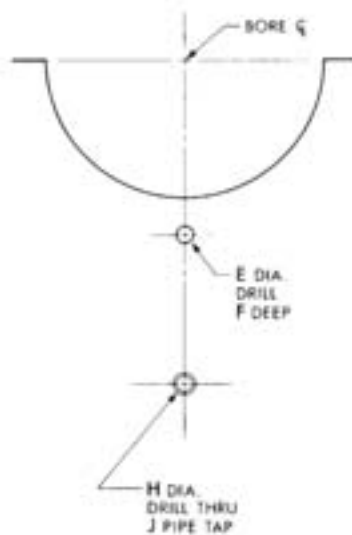

Figure 2
**TABLE 3 — Figure 2, Type Y & YB Drainback Dimensions**
TABLE 4 — Figure 2, Types YF & YFT Drainback Dimensions